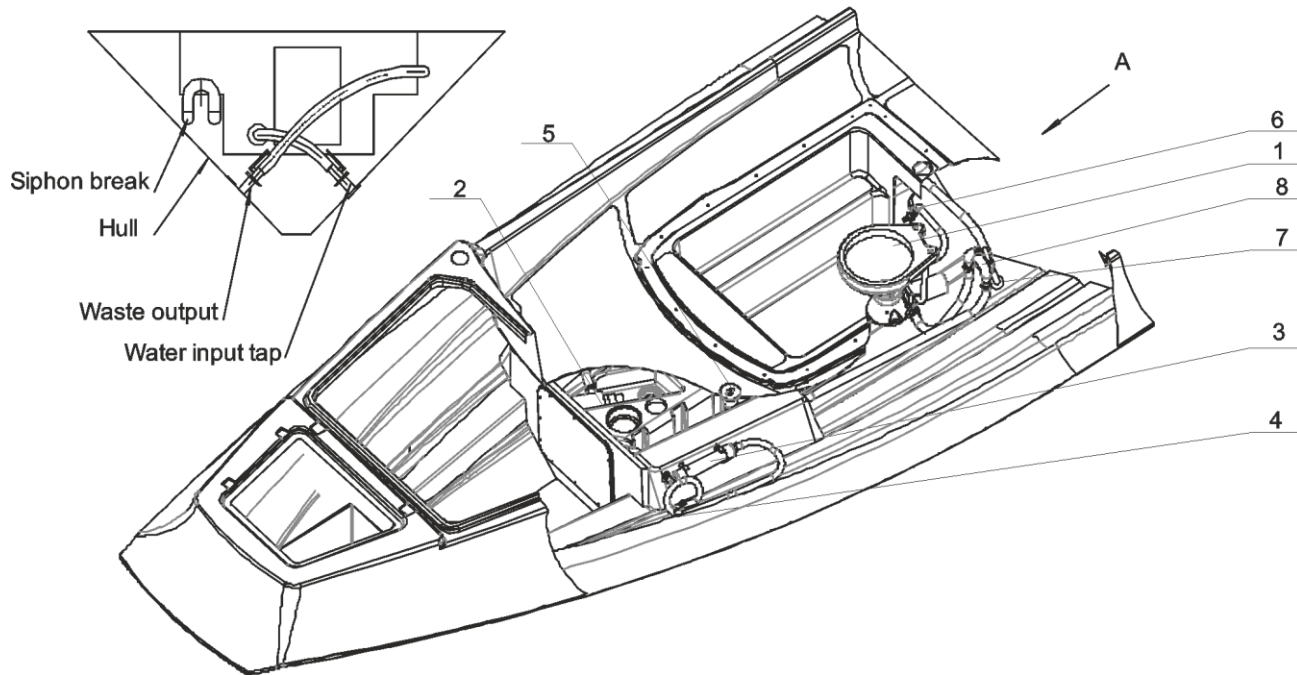

Fig. 40. Waste water system.
Waste water system of a boat (see fig. 40 on the previous page):
Before using a toilet, you should open water input tap (fig. 40, pos. 6). If you in offshore where the discharge of biodegradable wastewater in permitted, open overboard discharge valve. (fig. 40, pos. 7). Both taps are located in the compartment behind the toilet (fig. 39).
The filling sensor (fig. 39) of wastewater tank (fig. 40, pos. 2) is located near the toilet control panel. The discharge of wastewater tank can be done by sewage truck at a port. Connect the fitting of the receiving hose of the sewage truck with pump-out deck fitting (fig. 40, pos. 5) located on the deck, next to the steering console to do so.